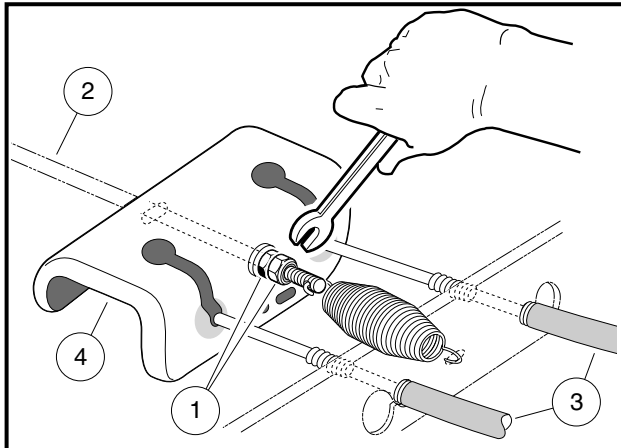

Figure 6-32 Loosen Equalizer Nut
- Release parking brake if latched and loosen equalizer retaining nuts (1) on equalizer rod (2) to slightly loosen brake cables (3) (**Figure 6-32, Page 6-20**).
1. Place the cables ends in the equalizer (4) (**Figure 6-32, Page 6-20**). Route cables through hangers in the same manner as the ones removed.